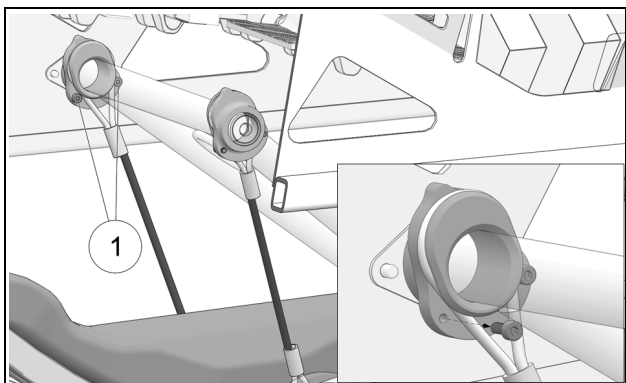

Figure 18
- Using an appropriate tool, re-install the long end of the spring in its groove in the spring support bushing. See Figure 18.
- Use a 3 mm Allen key to remove one of the two bolts (1) that lock the limiter cable on the upper cam. Figure 18.